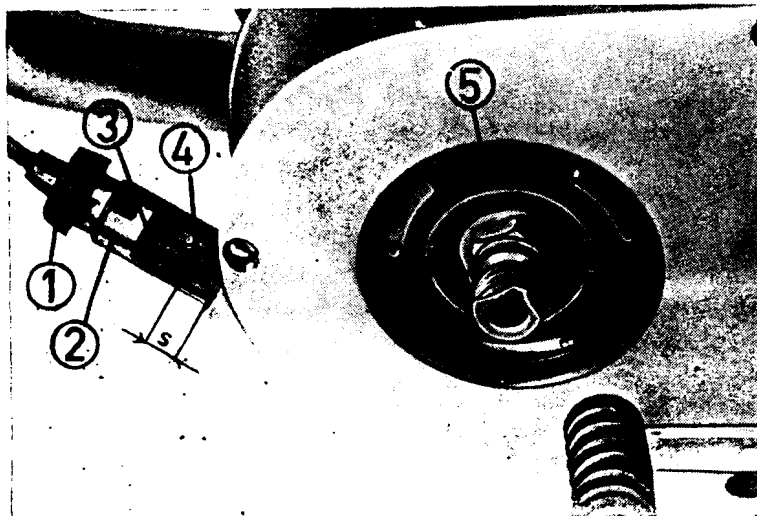

Fig. 16. Coarse adjustment of clutch
Adjust the clutch clearance of 3 mm by means of the adjusting screw (1). Lock the adjusting screw again. If the adjusting screw (1) is not sufficient for correcting the adjustment, then correct the coarse adjustment. For this purpose dismantle the clutch cable control according to the order of the numbers given in Fig. 16 and turn the adjusting plate (5) until at the nipple holder kept taut an amount of S 11 mm is achieved.